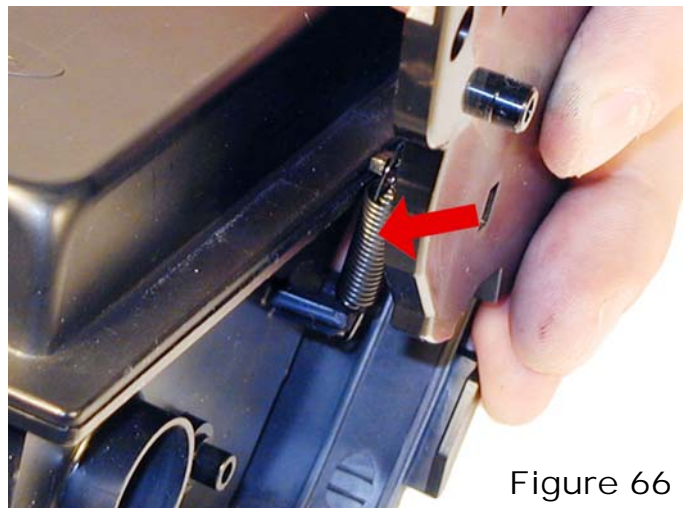

Figure 66
60) Install the spring from the end cap to the hopper. See **Figure 66**